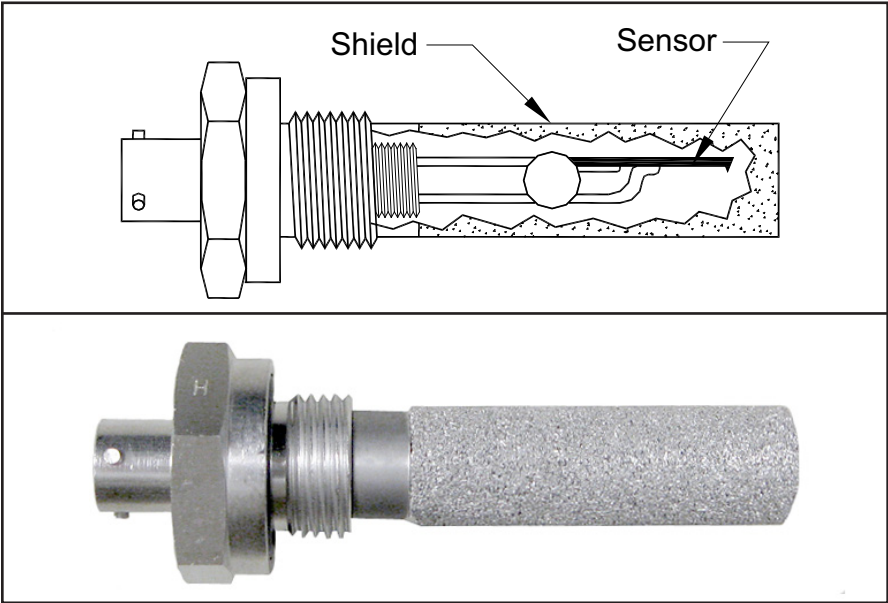
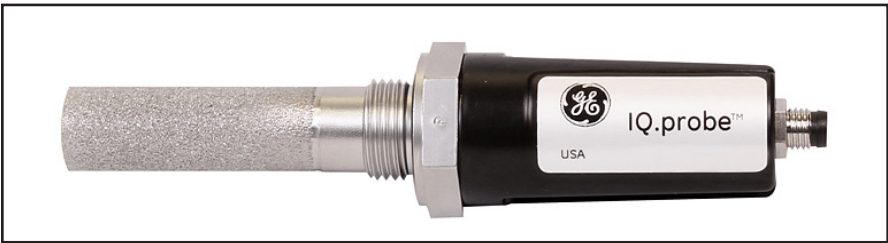

Figure 2: M Series Probe
Figure 3: IQ.probe
The *moisture probe* is the part of the system that comes in direct contact with the process. The **dew.IQ** uses any BHGE **M Series** probe (see *Figure 2* below) or an **IQ.probe** (see *Figure 3* below) to measure dew point temperature in °C or °F. The sensor assembly is secured to the probe mount and is protected with a sintered stainless steel shield (see *Figure 2* below).
- M Series probe (see *Figure 2 on page 2*)
- IQ.probe (see *Figure 3 on page 2*)